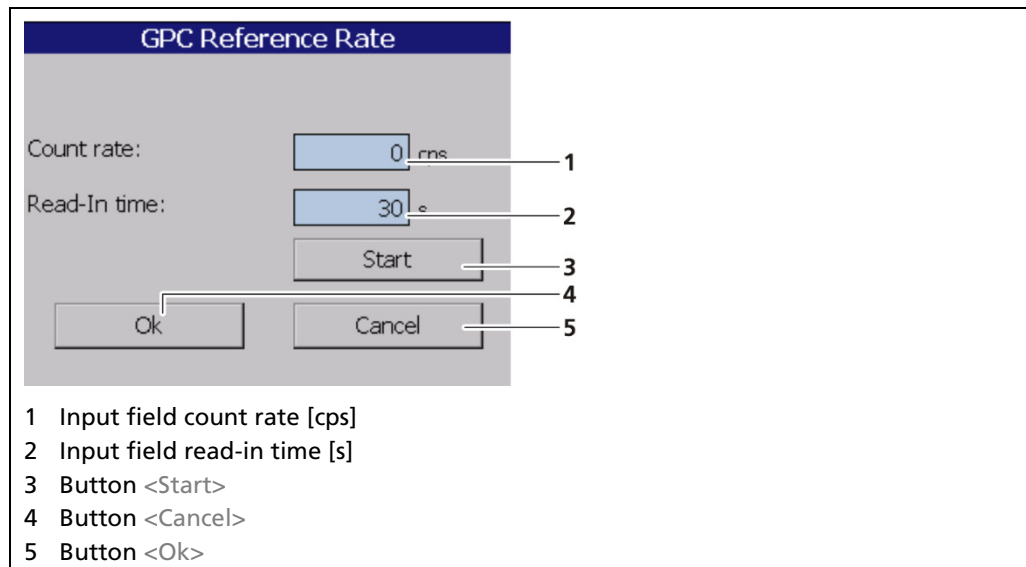

Fig. 95 GPC Reference count rate
- ▶ A new window "GPC Reference Rate" opens (Fig. 95).
2. Click on the "Read-In time" field (Fig. 95, item 2) and specify the duration of measurement in seconds. The higher you set the measurement time, the more accurate the result.
The value of the count rate may be entered manually (Fig. 95, item 1), if a determination of the unique reference count rate is not possible.